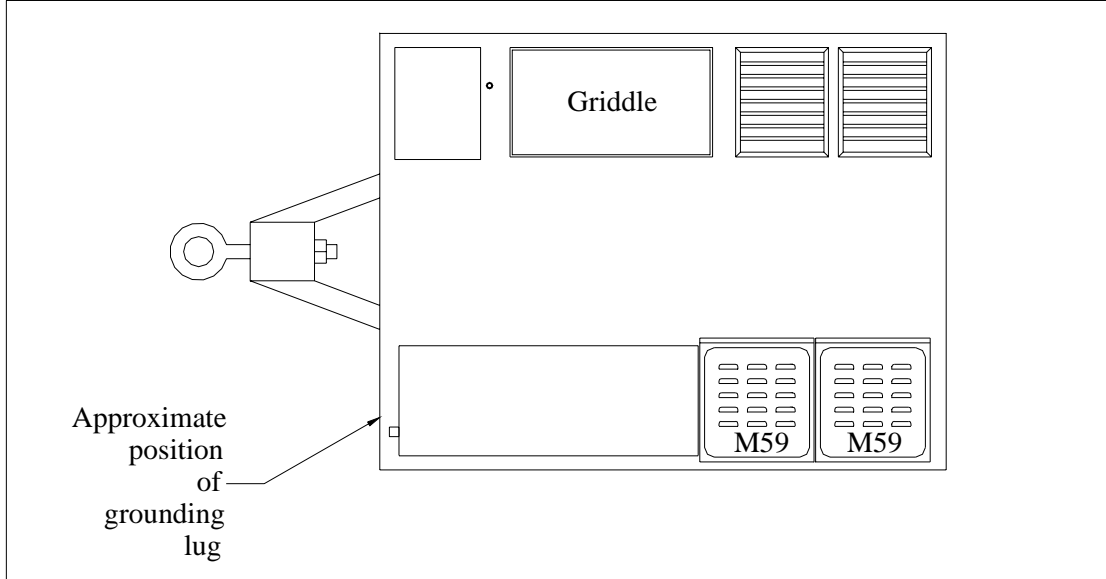
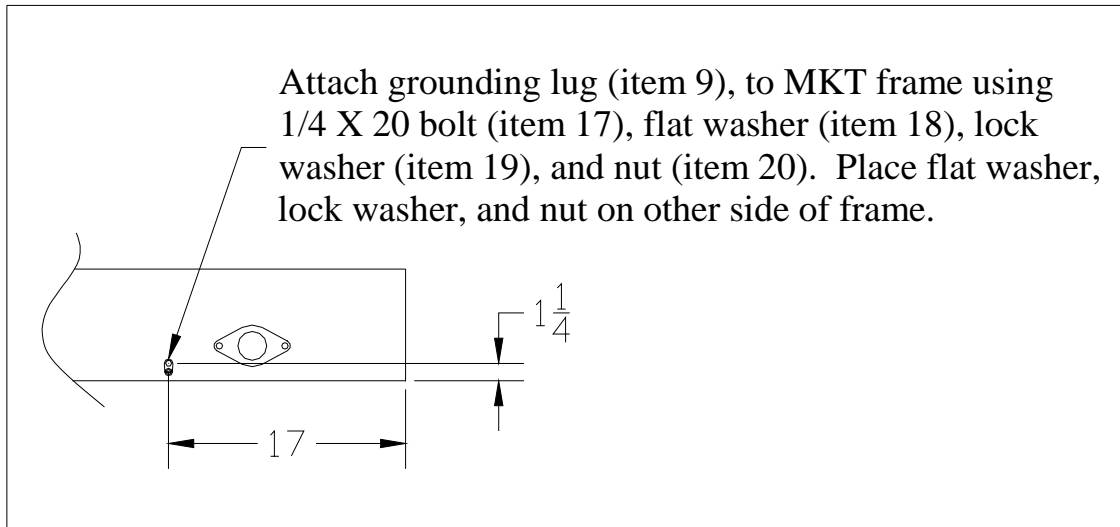

Figure 14. Position of grounding lug on MKT frame.
Figure 15. Installation of grounding lug on the MKT frame.
1) Mount grounding lug on the MKT frame according to Figure 14 and Figure 15, by removing the paint at the hole location to achieve good contact.